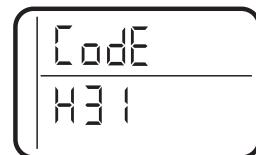

Figure 20
6. Press and hold the **MODE/SET** button until the mode code (H31 for the GXMH31H) shows in the display (see Figure 20). This code identifies the softener mode. If an incorrect model code is displayed, the softener will operate on incorrect configurations data.